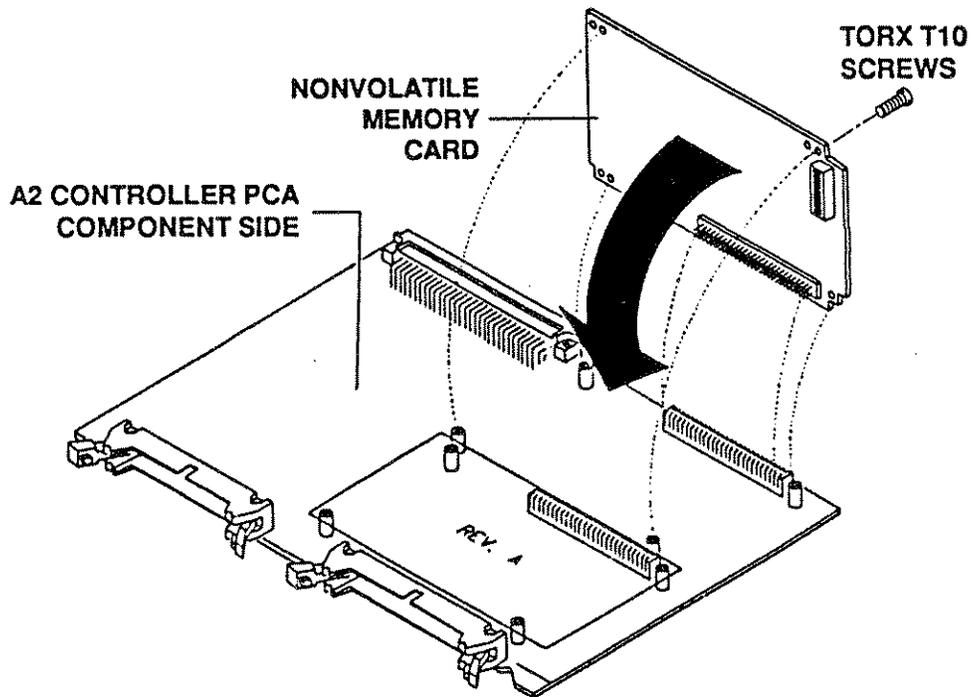

Figure 8-14. Remove and Replace Optional Memory PCAs
3. Remove four Torx T10 screws (see Figure 8-14).